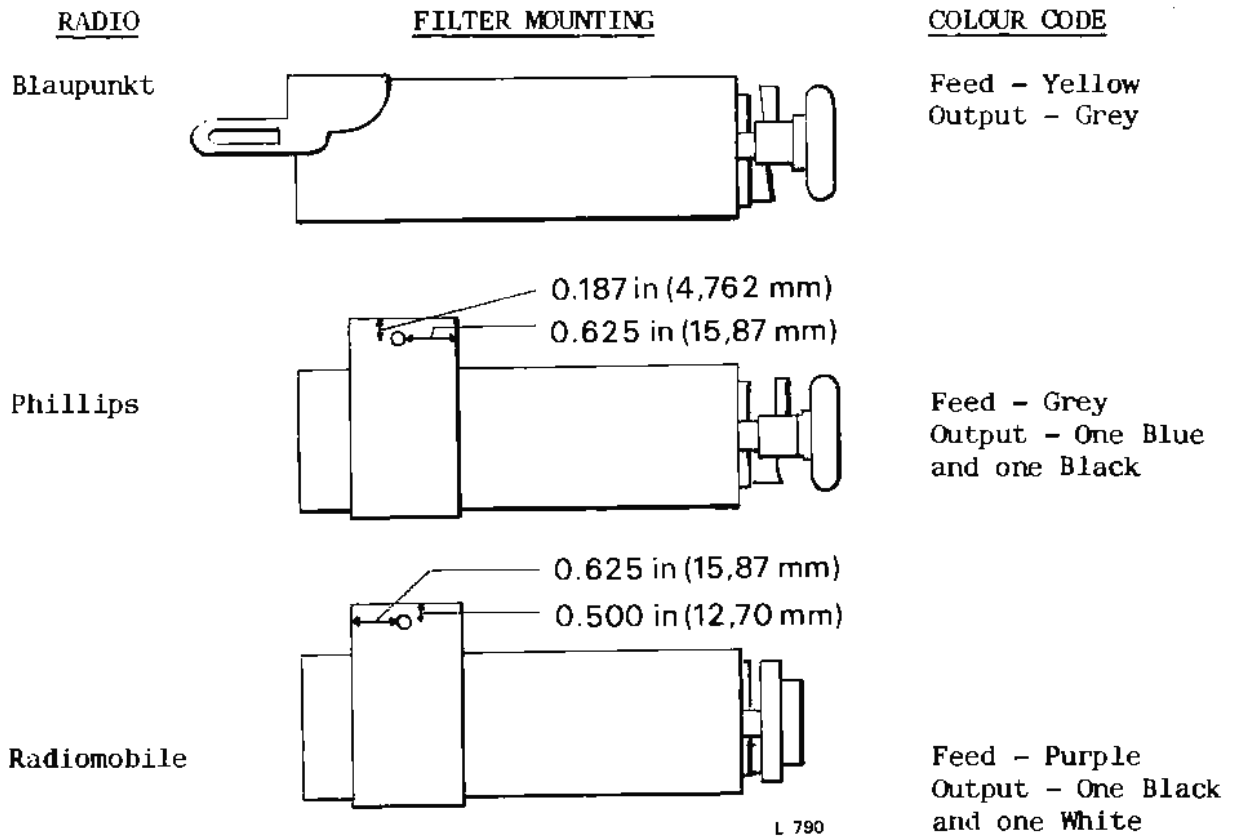

Fig. 2 - Mounting points
3. Attach the filter unit to the left-hand side radio mounting bracket with a self-tapping screw as shown in Figure 2. Ensure that a good earth is made between the filter casing and radio bracket.